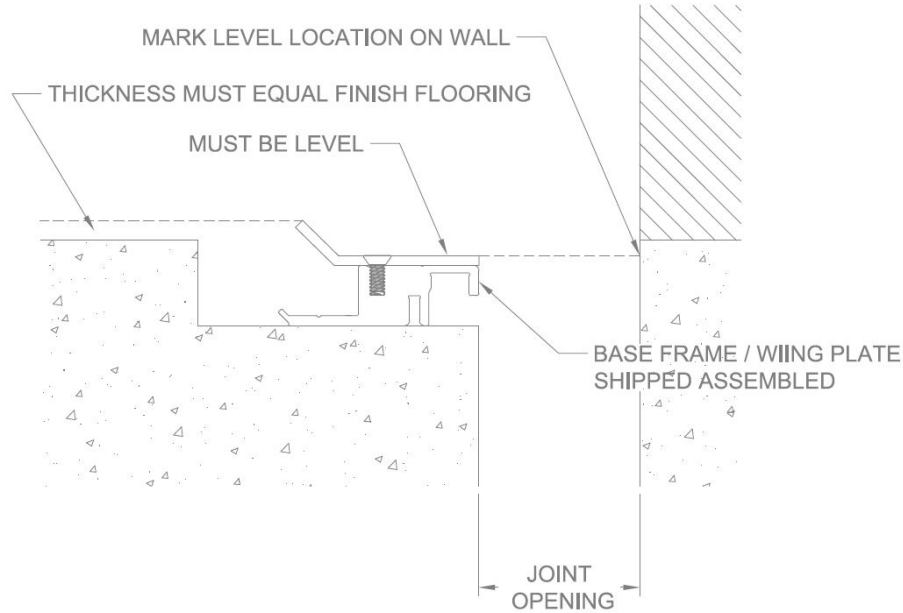

FIGURE 1
1. Position base member frame with attached wing plate in blockout per shop drawings, mark on the wall the location that is level with the top of the wing plate. **See Figure 1.**